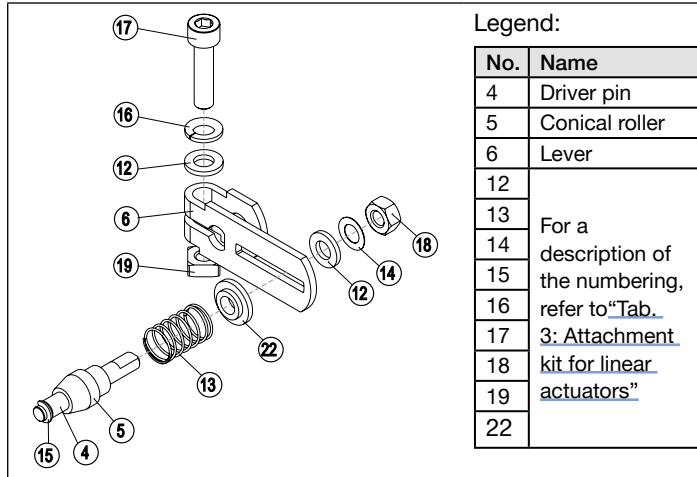

Fig. 6: Assembling the lever
- Assemble lever (if not pre-assembled) (see "Fig. 6").